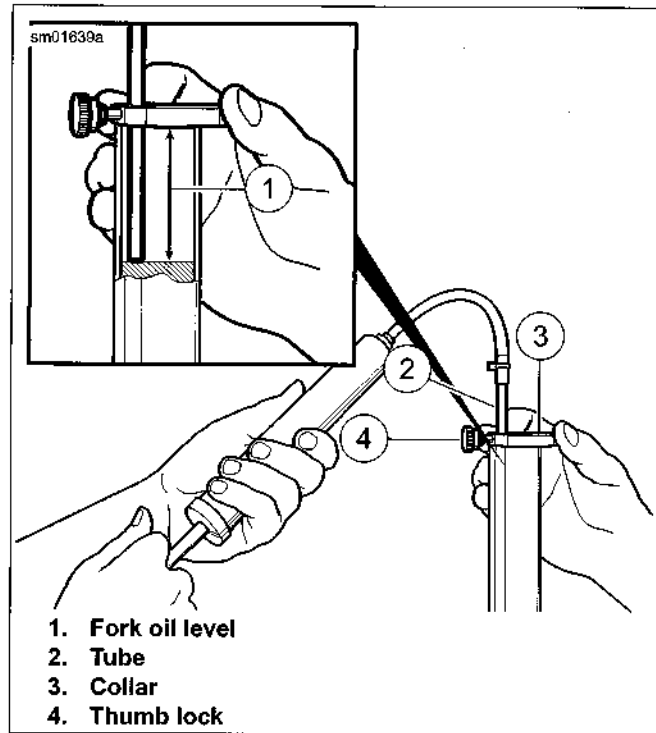

Figure 2-92. Oil Level Gauge
4. See Figure 2-92. Use OIL LEVEL GAUGE (Part No. HD-59000-B) to set fork oil level.
- a. Adjust length of draw off tube to specification (1). Refer to Table 2-21.
- b. Lock tube (2) to collar (3) with thumb lock (4).